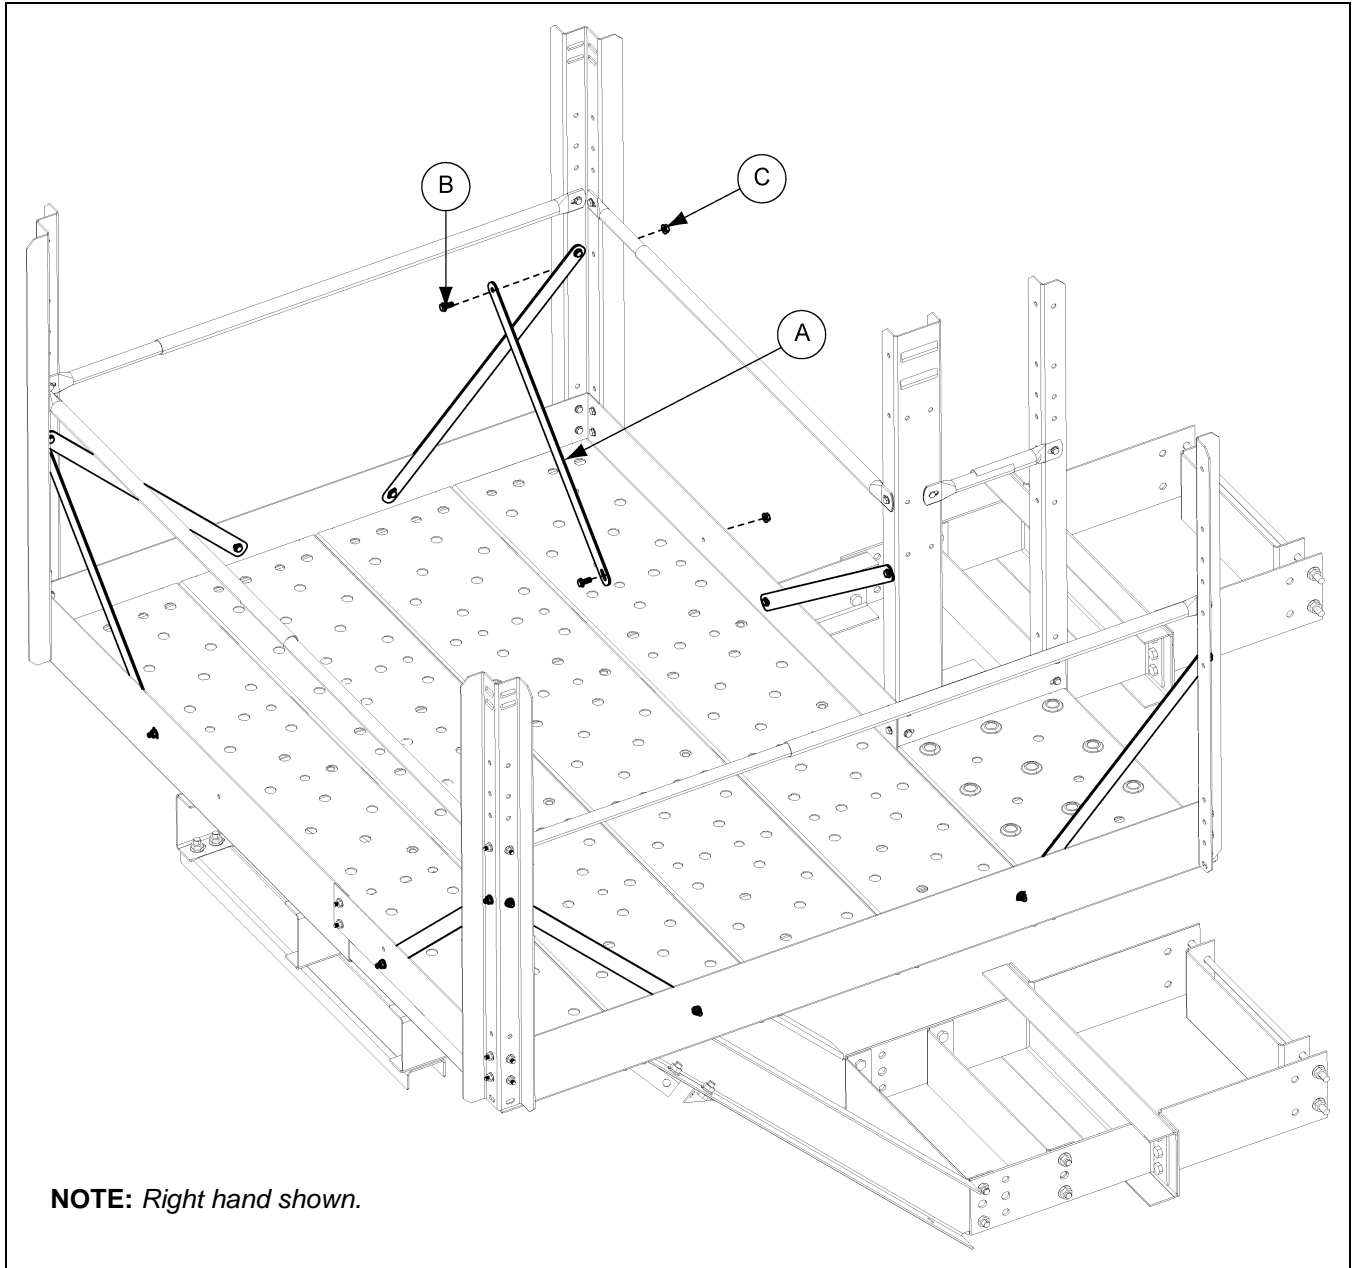

Figure 10N
1. Install safety bar cross supports from the decking toe board to the rail posts using two (2) 5/16" x 3/4" flange bolts and nuts per each cross bar support. (See Figure 10N.)